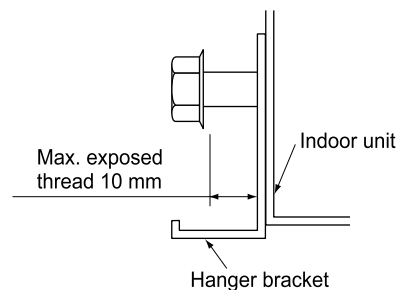

Fig. 6
- Loosen two hanger bracket setting bolts (M8) (two on each side) on each side for less than 10 mm. (Refer to Fig. 6 and 7)